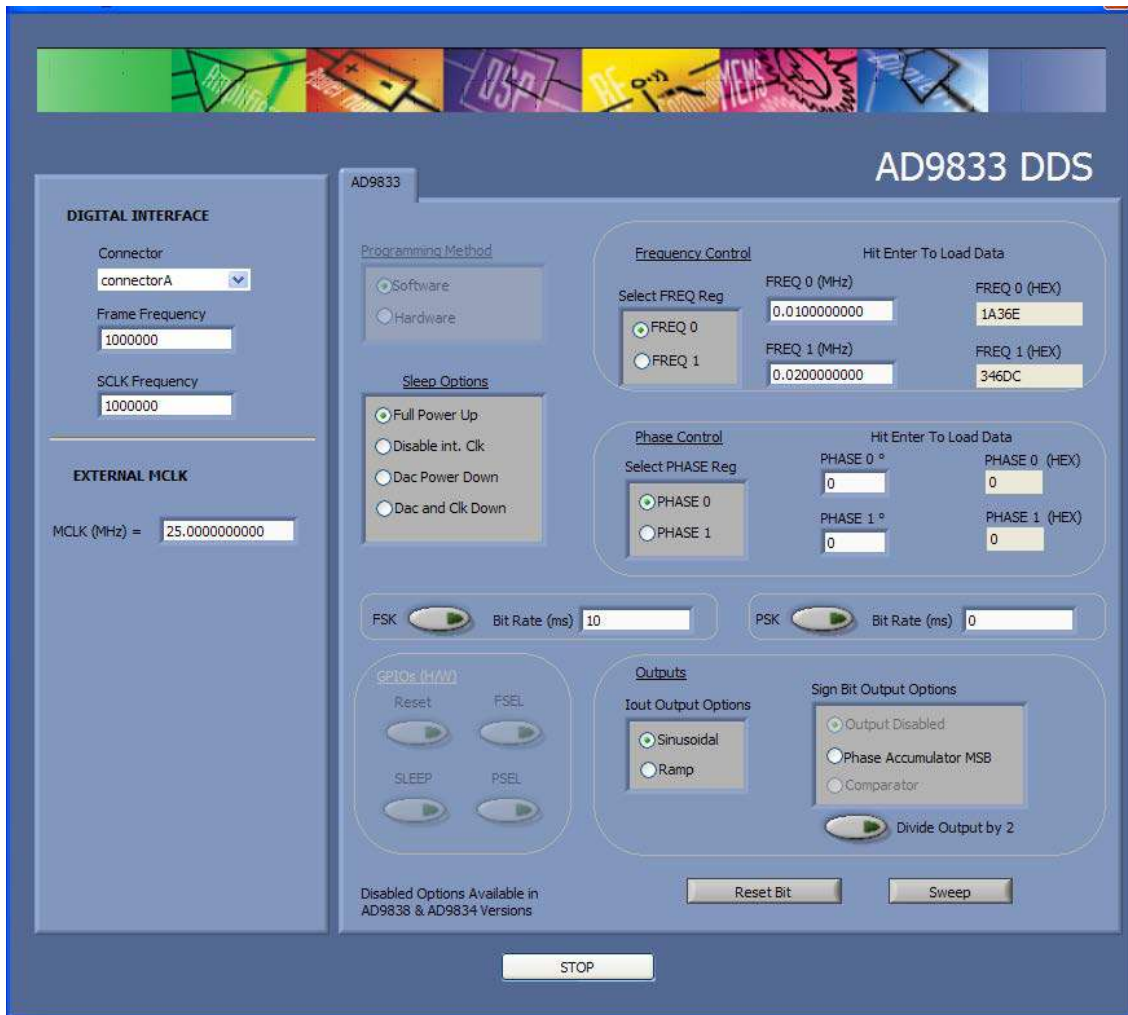

Figure 4. AD9833 DDS Evaluation Software
3. Ensure that all links are in their correct locations (see Table 1). The main window of the AD9833DBZ evaluation software then opens, as shown in Figure 4.